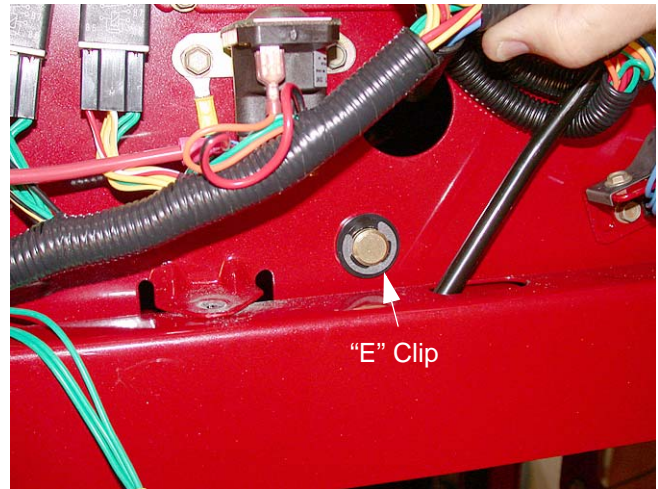

Figure 17.15
- 17.15. Remove the E-clips on the ends of the deck lift shaft. See Figure 17.15.